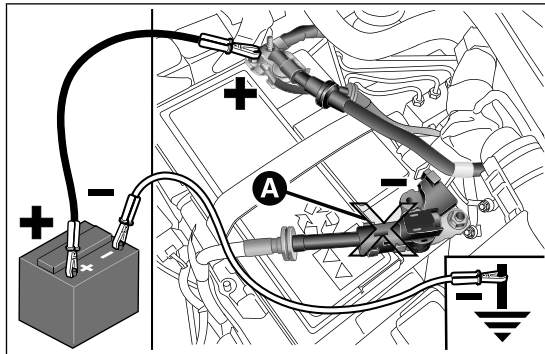

fig. 107
- ☐ connect the positive terminals (sign + near the terminal) of the two batteries with a jump lead fig. 107;